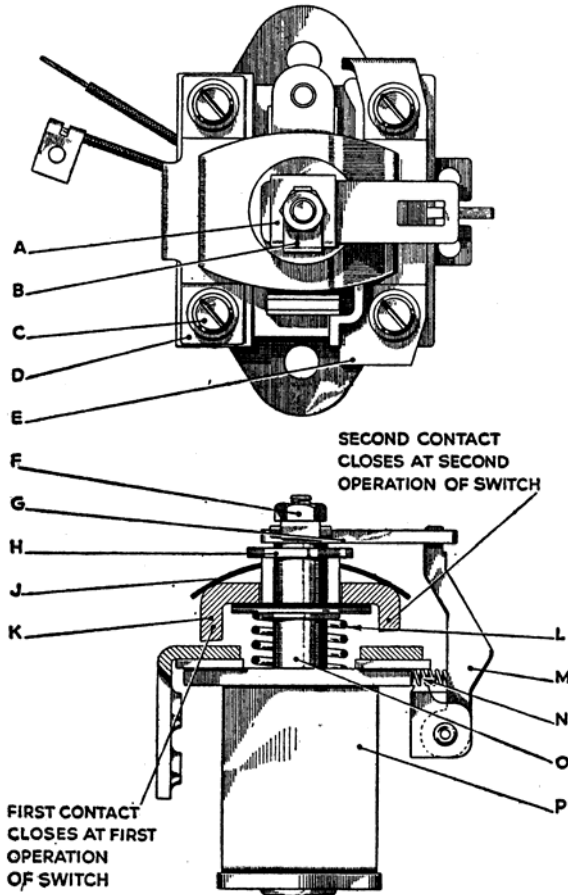

Fig. 311.—The C.A.V. Solenoid Starter Switch as used on some Leyland Vehicles.
As an example of the general method of dismantling and reconditioning the solenoid type of starter switch, that of the C.A.V. make illustrated in Fig. 311) has been selected. This pattern is used on certain Leyland vehicles
To dismantle switch, release locking washer B (Fig. 311), remove nut F, catch-holding plate A' trigger catch G, bridge piece K with flat spring and insulating washer. Take care that trigger spring N does not fall out when catch is removed.
Fit new locking washer B (Fig. 311) for the armature nut.
- Force to overcome spring tension of trigger M applied at peak of tripping face (Fig. 311) with switch in " Off" position, 16 ozs. \pm 1| ozs.